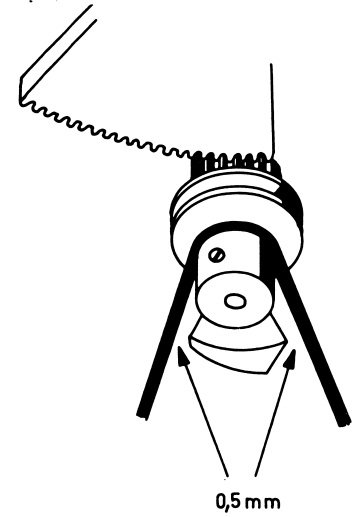

Fig. 4 TGR 778
### Adjusting the speed-selector, item 82, Fig. 4